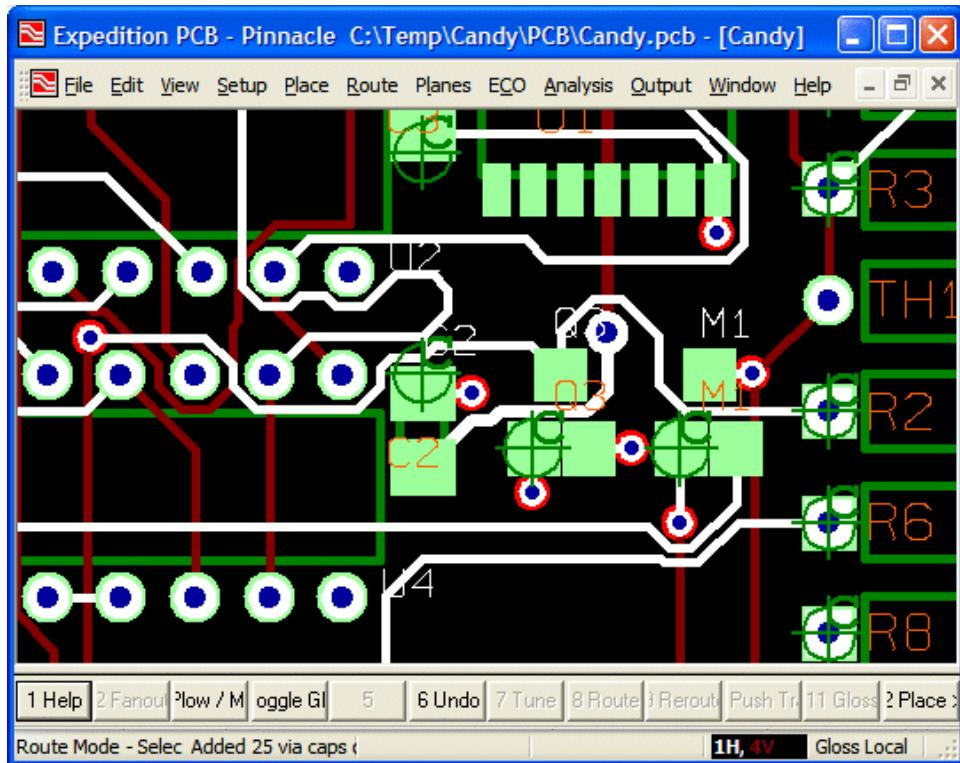

Figure 12-27. The *ViaCap.vbs* script adds via caps to the user layer called "Test".
- 5) Drag the *ViaCaps.vbs* script from your C:\Temp folder, drop it on top of the design, and observe the via cap graphics appear as illustrated in Figure 12-27.